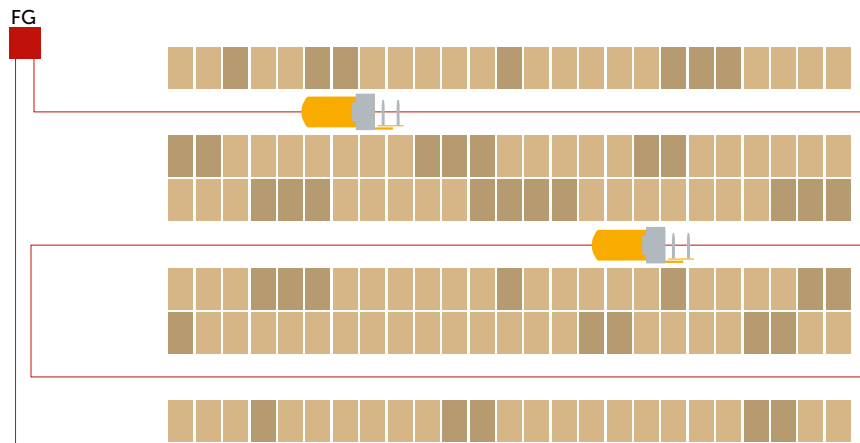

Fig. 16
The wire floor system is laid as a closed conductor loop with the start and end connected to the frequency generator (FG). When an uneven number of aisles is used, an additional return wire must be connected to the frequency generator (Fig. 16).